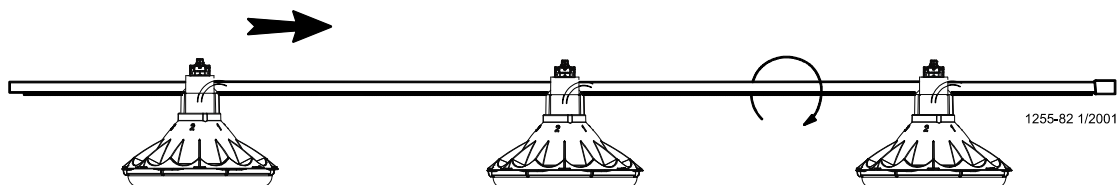

Figure 21. Assemble Feeders on tubes
- Rotate the auger tubes so that the seam is down, this holds the Pan Assemblies in place on the tubes. See **Figure 21**.